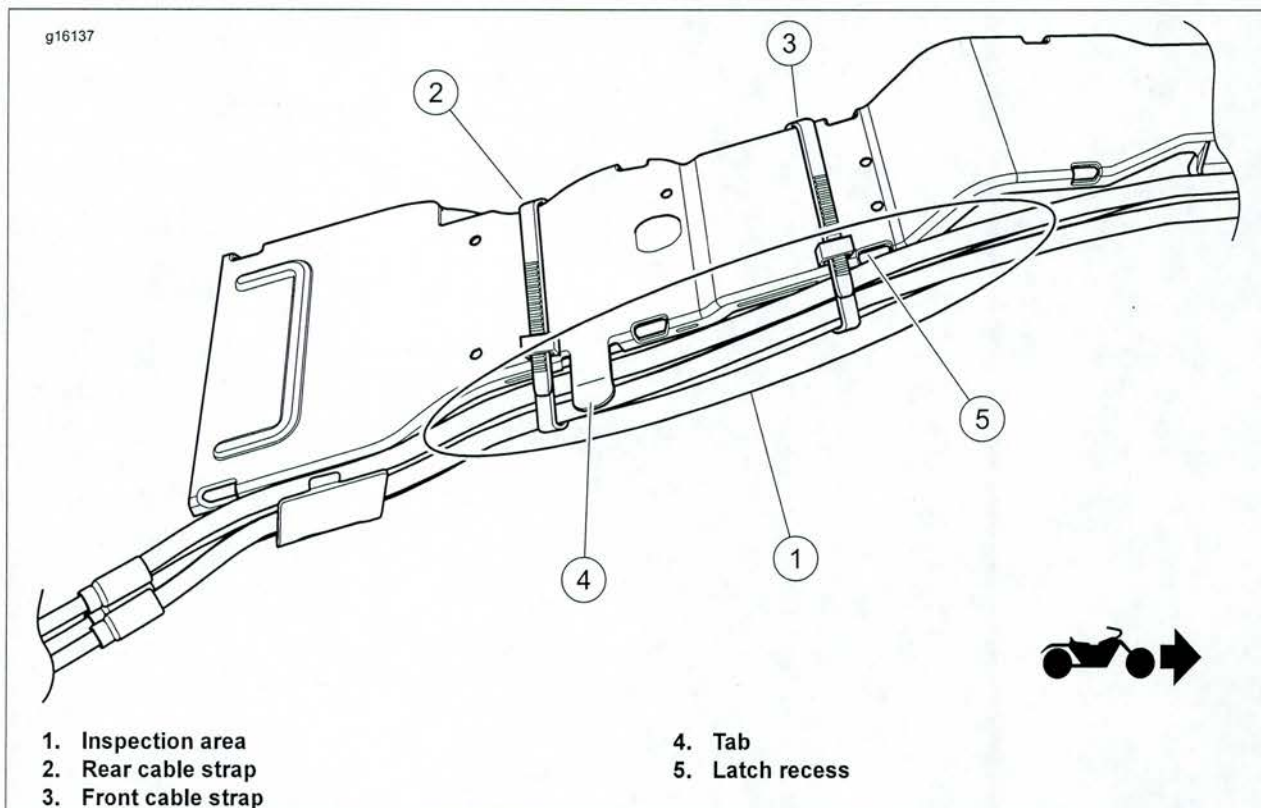

Figure 1. ABS Brake Line Cable Straps
3. See Figure 1. Inspect brake line routing along the wire trough. Verify that the lines are secured by two cable straps (2, 3) as shown. Motorcycles built October 14, 2013 and later will have the rear cable strap (2) already installed. Installed cable straps may be black or white in color. Both are acceptable.
- a. Inspect lines for damage in area (1).
- c. Verify that lines are properly routed under tab (4).
- d. Secure lines with one or two **new** cable straps (2, 3) (Part no. 10039) as required. Locate rear cable strap (2) within 1/2 in (13 mm) rearward of tab (4). Locate front cable strap (3) at or near latch recess (5).